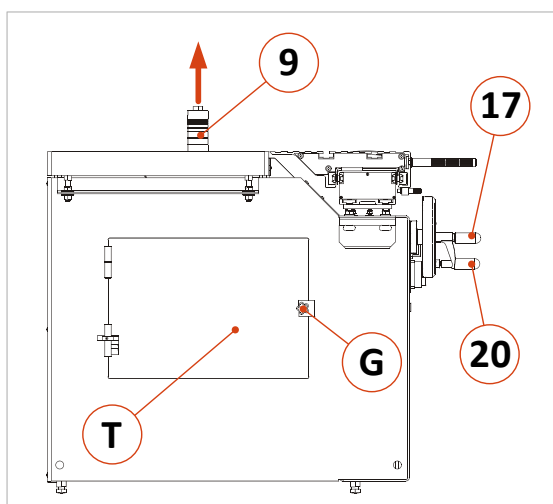
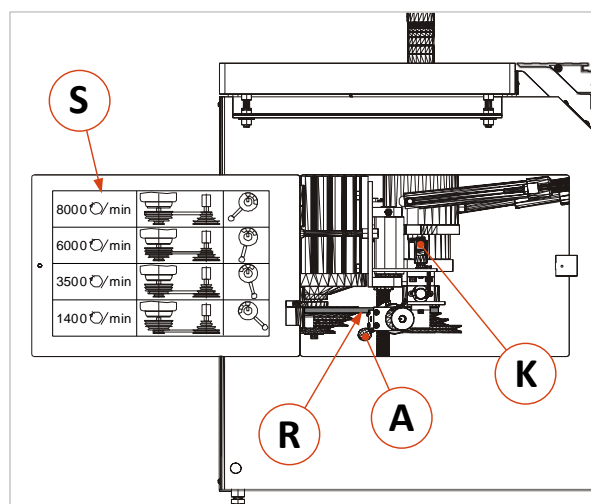

Figure 14: Service door
Figure 15: Speed setting
- After switching off and locking the main switch (1), loosen the clamping lever of the handwheel (20) for height adjustment and crank the spindle (9) to the uppermost position (see ⇒ Figure 14).
- Then loosen the handle screw (G) and open the service door (T) on the left side (⇒ Figure 14).
- Open the clamping lever (K) to release the belt.
- Set loosened belt (R) to desired speed by means of lever (A), see ⇒ Figure 15.
- **Note:** The speed table (S) is also attached to the inside of the service door (T).
- After setting has been completed, tighten the clamping lever (K) again.
- **Recheck:** Turn the pulleys by hand and make sure that the belt runs freely and does not rub against the lever (A).
- Close the service door and turn the main switch (1) on again.